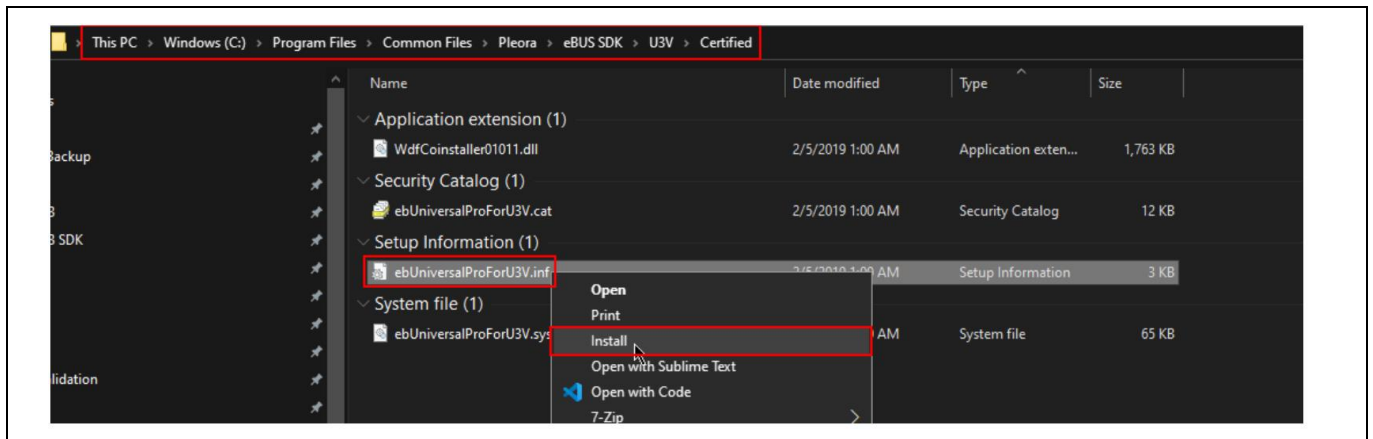

Figure 10 Installing the driver for USB3 Vision player (eBUS player)
- If FX3 is not detected, go to `C:\Program Files\Common Files\Pleora\eBUS SDK\U3V\Certified` and install the U3V driver as shown in Figure 10.